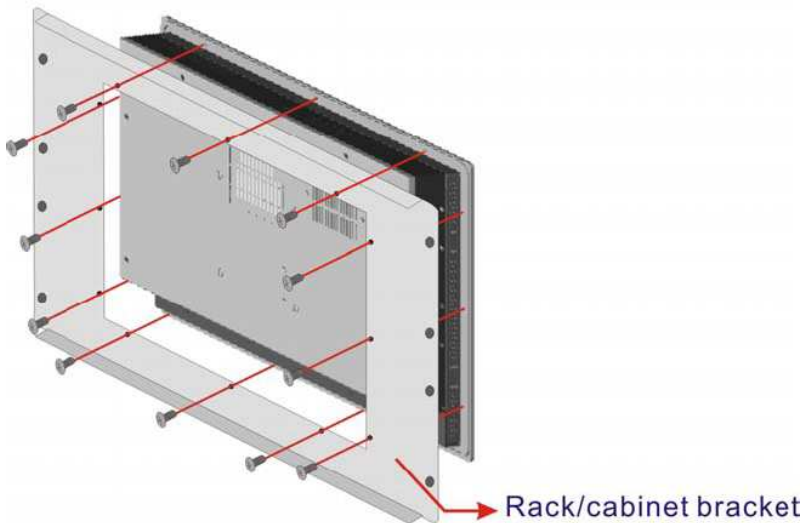

Figure 3-18: Secure the Rack/Cabinet Bracket
Step 4: Secure the rack/cabinet bracket to the IVC-15PC-P flat panel PC by inserting and tightening 12 retention screws. (See **Figure 3-18**)